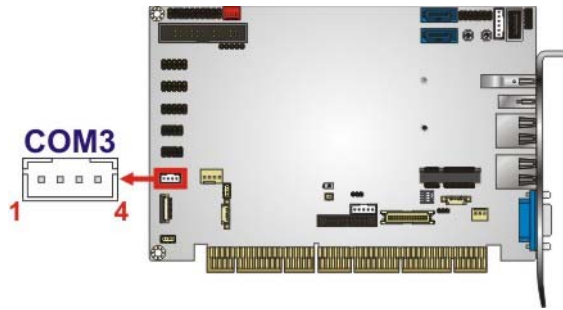

Figure 3-24: RS-422/485 Connector Location
- CN Location:** See **Figure 3-24**